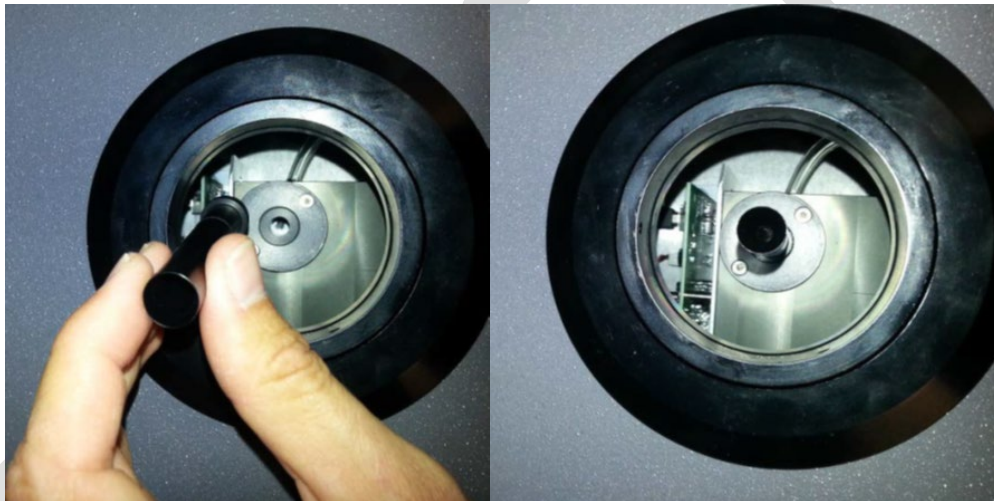
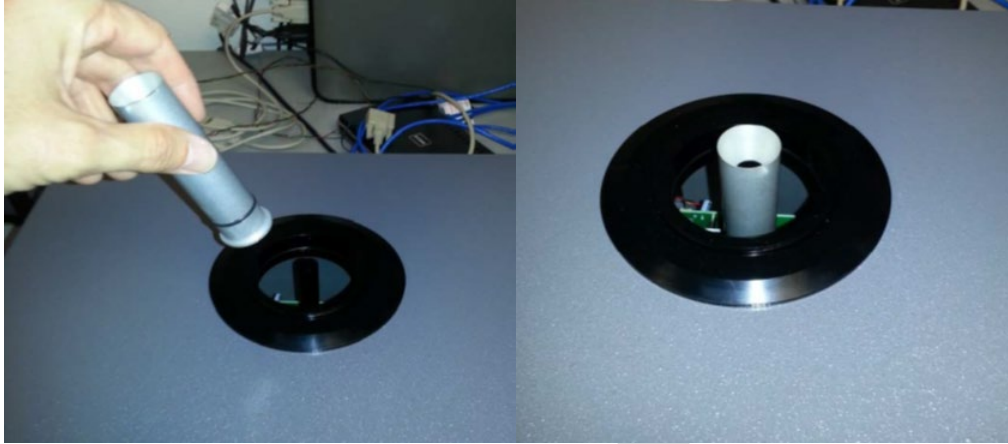

Figure 18. ASC Setup: Inlet Nozzle.
Figure 19. ASC Setup: Aluminum Adapter.
1. Insert the black inlet nozzle through the center of the support collar into the top of the optical sensor, seating it tightly so that the nozzle's upper O-ring flange is flush with the upper surface of the sensor body (Figure 18).
2. Slide the aluminum adapter over the black inlet nozzle, ensuring its base is flush with the top of the optical sensor (Figure 19).
- a. Make sure the black inlet nozzle (Figure 18) and aluminum adapter (Figure 19) are installed on the optical sensor.